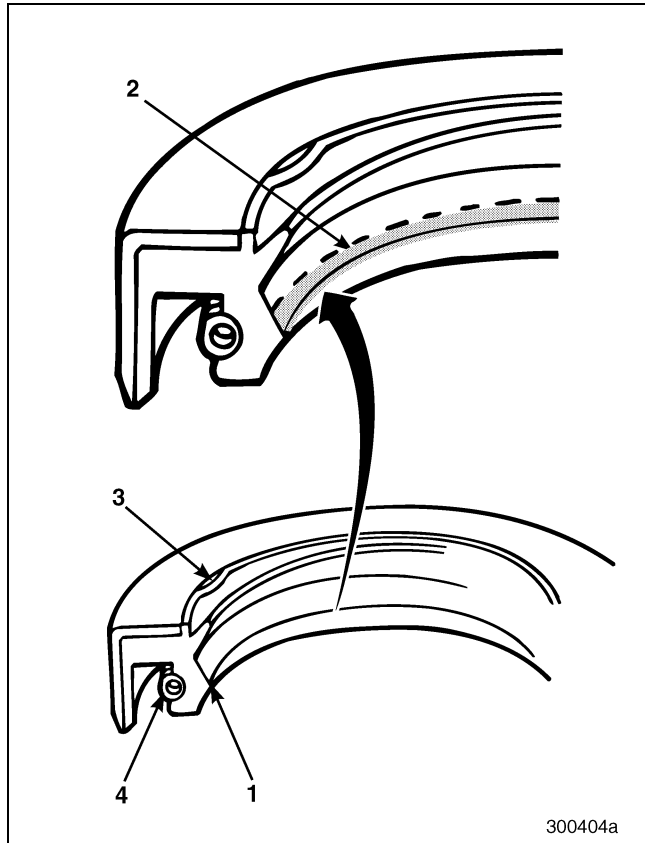

Figure 33 — Seal Lips
1. A new seal lip has a sharp edge as shown in Figure 33, item No. 1. Normal wear will dull this edge. Check the seal lip; if sharp edge is worn to a flat surface, replace the seal.
2. Check the seal contact area (Figure 33, item No. 2). If this area seems too wide (over 1/32 inch), the seal may be excessively worn or the material may have lost its consistency. Check the yoke for rough or scored condition. Replace the seal and repair or replace the yoke.
3. Check the seal for bonding separating from the outer shell (Figure 33, item No. 3). This could change the flexibility of the seal lip and cause leaks. Replace the seal if separation occurs.
4. Check the seal spring as shown in Figure 33, item No. 4. If the spring has lost its tension or is missing, replace the seal.